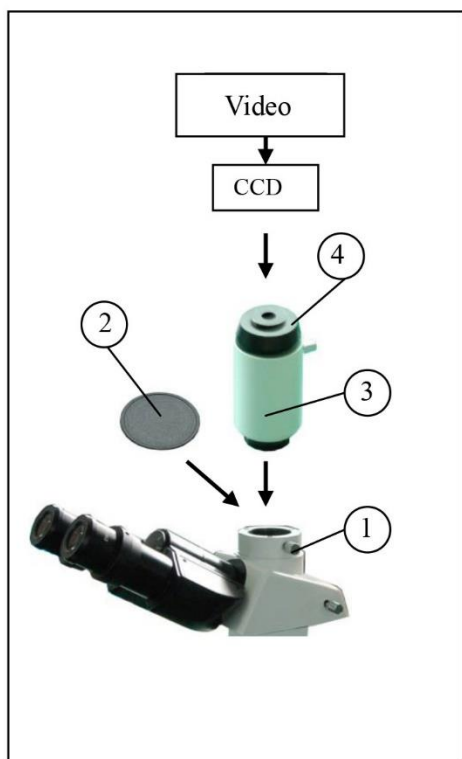

Figure 2
4.1.2. Installing the video set (Figure 2)
1. Loosen the locking bolt ① on the trinocular viewing tube, and take out the dust cap ②.
2. Remove the dust cover on the both ends of the video accessories ③, and revolve the screw head end into the CCD/CMOS port.
3. Install the accessories into the tri-through port, and screw down the bolt ①.
4.1.3. Focus (Figure 2)